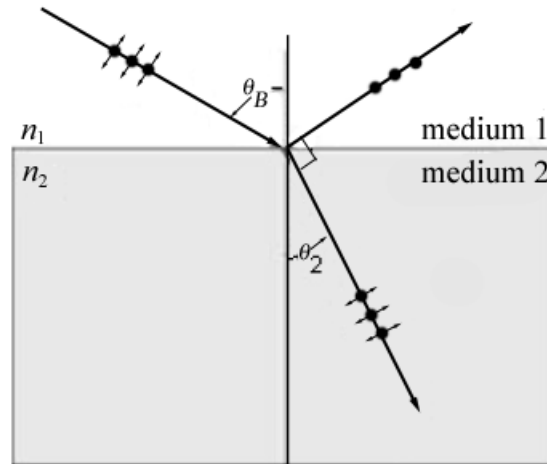

Figure 3
When an unpolarized light beam is reflected from a surface, the reflected beam will become partially polarized depending on the angle of incidence. For one particular angle of incidence, called *Brewster's angle*, θ_B , the reflected beam is completely polarized. The condition for this phenomenon to occur is shown in Fig. 3. The polarization of the incident beam can be described by two electric field components, one parallel to the surface (represented by dots) and the other perpendicular to the first component and to the direction of propagation (represented by arrows). At Brewster's angle of incidence, the angle between the reflected and refracted beams is 90° . The reflected beam is completely polarized, with its electric field parallel to the surface. Brewster's angle can be related to the index of refraction of the reflecting surface by using Snell's law. Substitution of $\theta_1 = \theta_B$, $n_1 = n_{\text{air}} = 1$, and $n_2 = n$, into Eq. (1), we get $\sin \theta_B = n \sin \theta_2$. Because $\sin \theta_2 = \sin(90^\circ - \theta_B)$, the expression for n above can be written as the following equation.